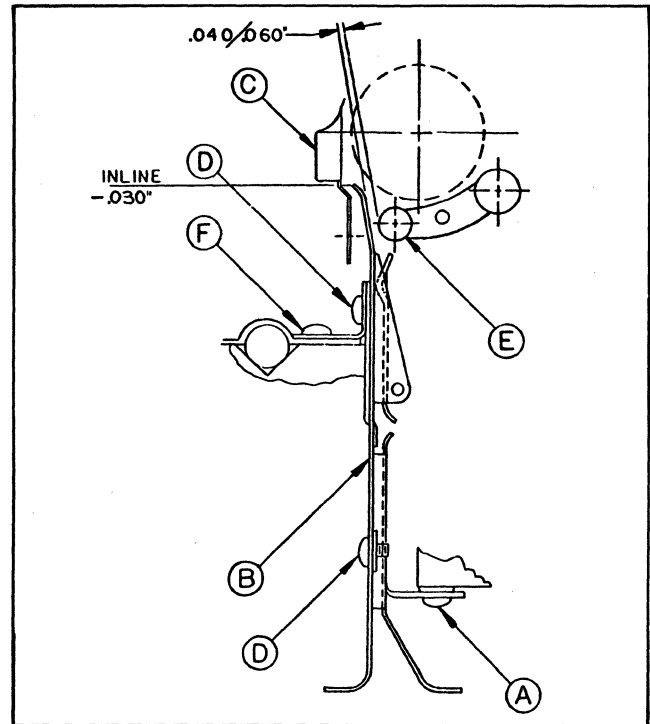

Figure 3-20. Paper Chute Adjustment
3.4.1.6 BOTTOM-FEED PAPER CHUTE (Figure 3-20)